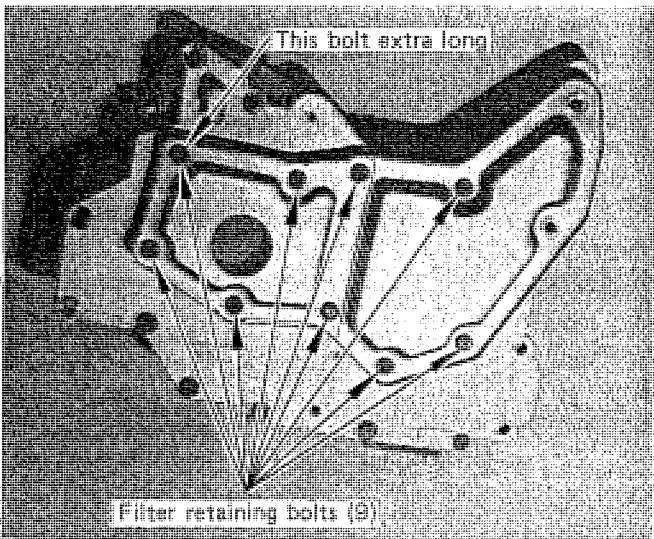

FIGURE 4
**STEP 6.** Turn the valve body over and remove the filter retaining bolts. (See Fig. 4) These are long bolts with one bolt being extra long. Remove filter and gasket.
**STEP 19.** Install new filter and gasket. (Note: Some C-6 transmissions are factory equipped with an extension tube as part of the filter. In these applications the B&M filter should not be used. The stock filter should be washed in solvent and reinstalled in the transmission.) Install eight long filter bolts and one extra-long filter bolt. (See Fig. 4) Align two large filter bolt holes with casting and tighten bolts to 30-45-in.lbs.